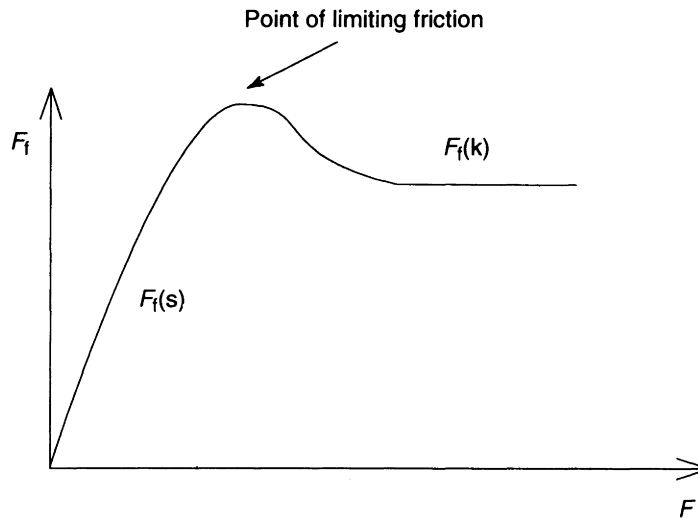

Figure 4.19
Admittedly, you will probably not come across a problem involving pushing a rectangular block across a horizontal surface but this is a useful example to help simplify the concept and thus make it easier to understand. The frictional force that prevents the block from initially moving is called 'static friction' (some people call this 'stiction'). The resisting frictional force that occurs when the block is moving is called the frictional force of motion or kinetic force of friction. When these two frictional forces are being represented, static friction is usually written as  $F_{f(s)}$  and the frictional force of motion as  $F_{f(k)}$ . Both static and kinetic friction forces are coulomb or dry friction. Look at Figure 4.19. This is a plot of the dry or coulomb frictional force between the block and the ground against the pulling force  $F$ .
4. The frictional force  $F_f$  is independent of the speed of motion. Notice in Figure 4.19 that the line is horizontal for  $F_{f(k)}$ , provided that the velocity is not too high.